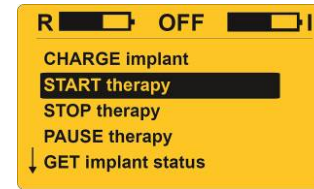

Figure 7
2. When the Main Menu appears (see Figure 7 below) highlight *START therapy*, then press the OK button.